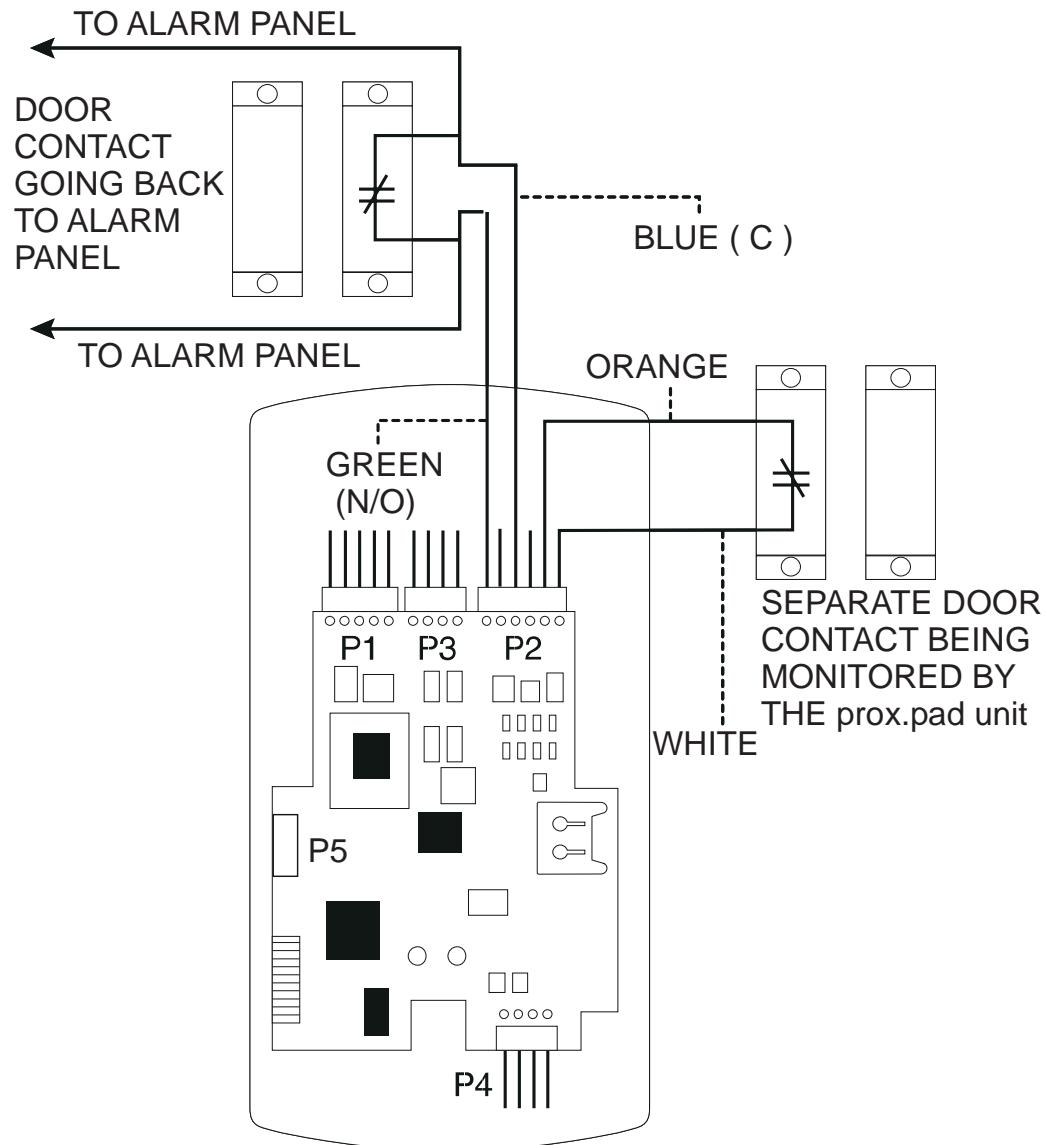

Figure 3-1 Wiring the Aux Relay
The Alarm Shunt Relay function may be necessary when a separate existing security system is in place. The Alarm Shunt Relay keeps an alarm panel zone from going into alarm when the door is opened, after a valid code is entered. The Alarm Shunt function is assigned to the Aux relay by default. To incorporate this feature, follow the steps below; see Figure 3-1.
6. Make a parallel connection to the green and blue wires and run the leads to the alarm panel. **NOTE: This feature requires that you use the "Door Contact" input as shown in Figure 3-1.**